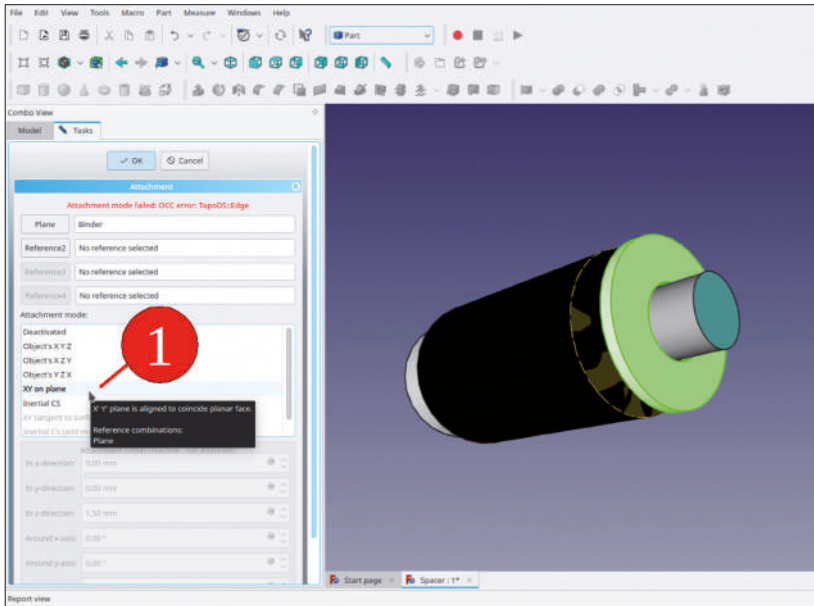

Figure 4-27
19. In the Property list, click the entry field for 'Map Mode', and then on to the  button appearing on the right-hand side. This opens a task window. There, the attachment mode 'Concentric' is still selected, which makes no sense with respect to a plane. From the list, select 'XY on plane' instead (Figure 4-27).